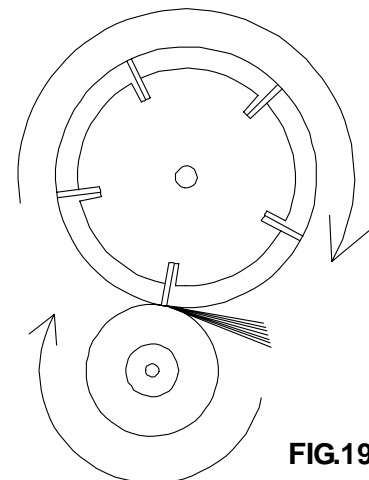

FIG.19
**IMPORTANT:** When spin grinding, the reel should turn in the same direction as the grinding wheel. See FIG. 19.